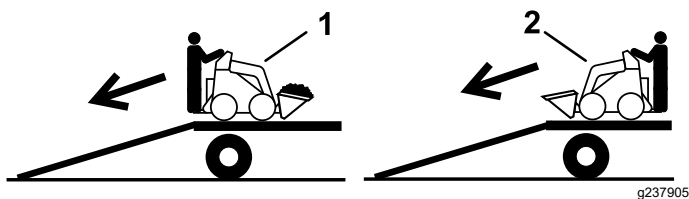

Figure 20
2. Unload the machine from the trailer with the heavy end up the ramp, carrying loads low (Figure 20).